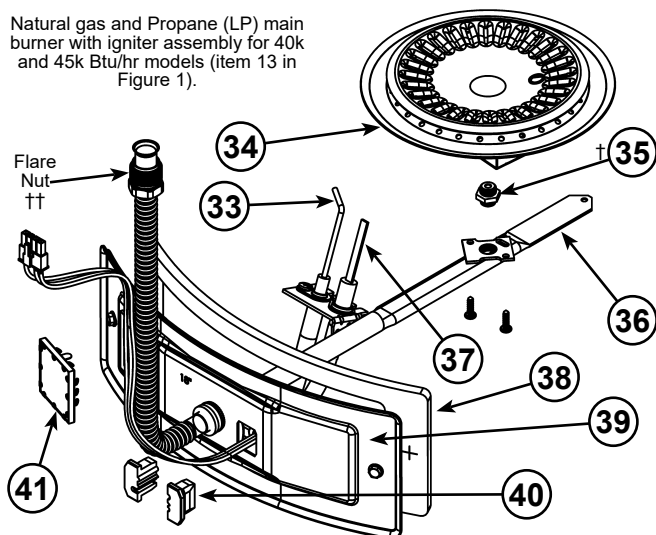
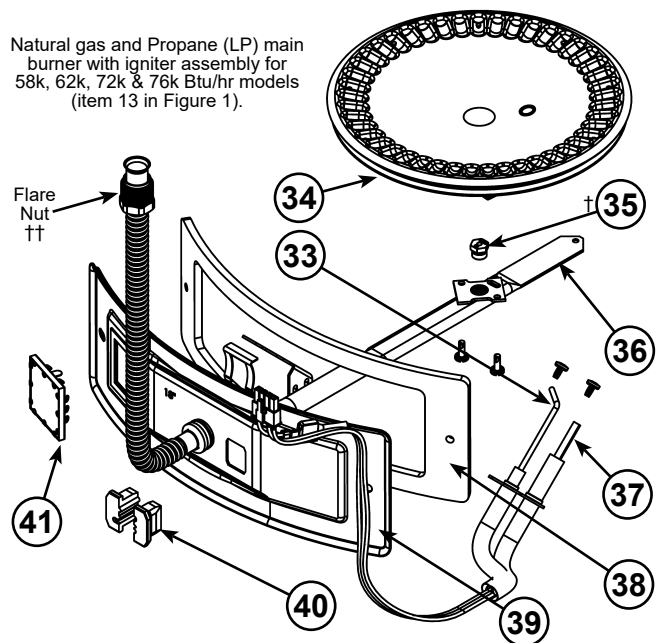

Figure 58.
Figure 59.
- 13 Manifold Door Assembly (behind outer door) (see Figure 3 & Figure 4) (see also Figure 58 & Figure 59)
- 33 Flame Sensor Rod (see Figure 3 & Figure 4) (see also Figure 58 & Figure 59)
- 34 Sheet Metal Burner (see Figure 3 & Figure 4) (see also Figure 58 & Figure 59)
- 35 Gas Orifice (see Figure 3 & Figure 4) (see also Figure 58 & Figure 59)
- 36 Gas Manifold (see Figure 3 & Figure 4) (see also Figure 58 & Figure 59)
- 37 Hot-Surface Igniter (see Figure 3 & Figure 4) (see also Figure 58 & Figure 59)
- 38 Manifold Door Gasket (see Figure 3 & Figure 4) (see also Figure 58 & Figure 59)
- 39 Manifold Door (see Figure 3 & Figure 4) (see also Figure 58 & Figure 59)
- 40 Two Piece Grommet With Clip (see Figure 3 & Figure 4) (see also Figure 58 & Figure 59)
- 41 Viewport (see Figure 3 & Figure 4) (see also Figure 58 & Figure 59)